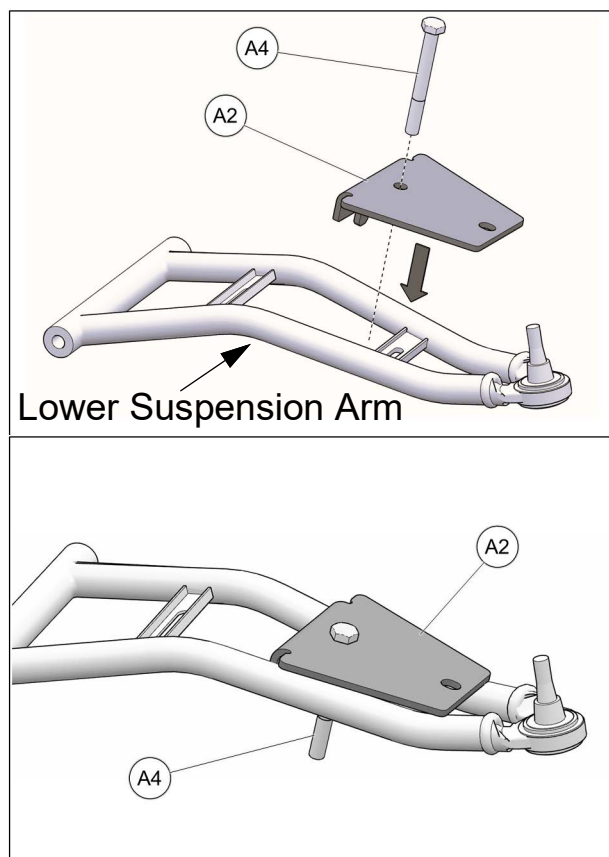

Fig. 19
5. Insert M10x90mm bolt (**A4**) in back end hole of anchor bracket cover (**A2**) and position these parts over lower front suspension arm as shown in Fig. 19